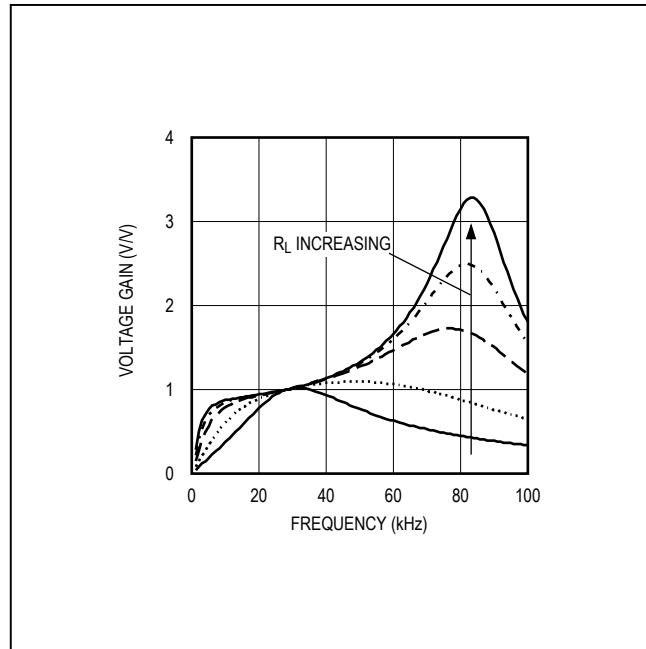

Figure 6. Frequency Response of the Resonant Tank
Figure 6 shows the frequency response of the resonant tank's voltage gain under different load conditions. The primary series capacitor is $1\mu\text{F}$, the secondary parallel capacitor is 15pF , the transformer turns ratio is $1:93$, and the secondary leakage inductance is 260mH . Notice that there are two peaks, f_S , and f_P , in the frequency response. The first peak f_S is the series resonant peak determined by the secondary leakage inductance (L) and the series capacitor reflected to the secondary (C_S'):